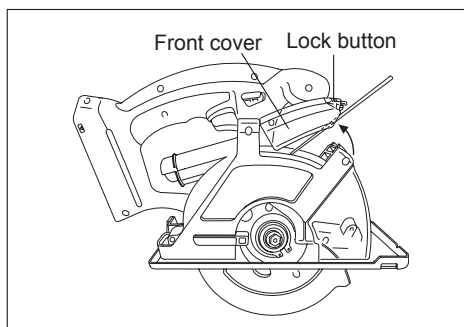

Fig. 4
- Disengage the front cover lock button and remove any dust that has become clogged inside the cover. If the cover is clogged, use a long object such as a manual screwdriver to unclog it. After doing so, close the front cover. (See Fig. 4)